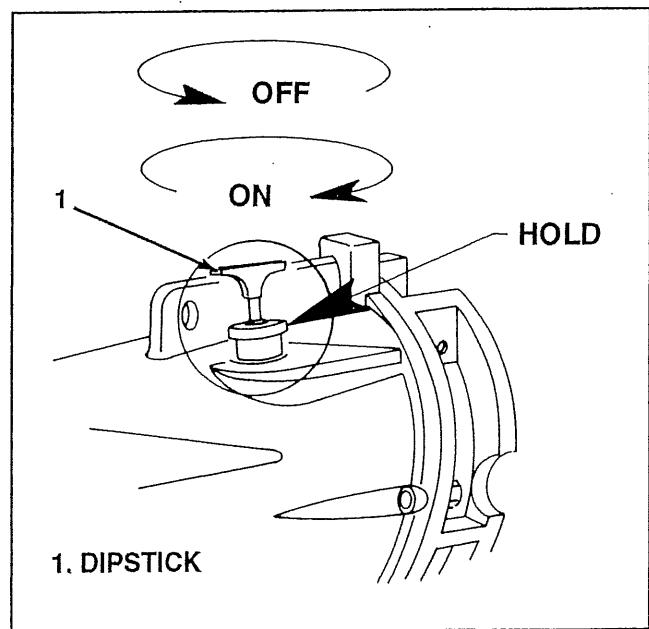

Figure 2-1. Dipstick Removal
**2-6. Warm Fluid Level Check.** With the engine at operating temperature, place the control lever in neutral and shut down the engine. Remove the dipstick (1) by holding the base and turning the T-handle counter clockwise (see figure 2-1) and wipe it clean. Insert the clean dipstick fully into the transmission, withdraw, and read the fluid level. Add or remove fluid as necessary to bring the fluid level to the full mark on the dipstick. Replace dipstick (1) and tighten by holding the base and turning the T-handle securely clockwise.